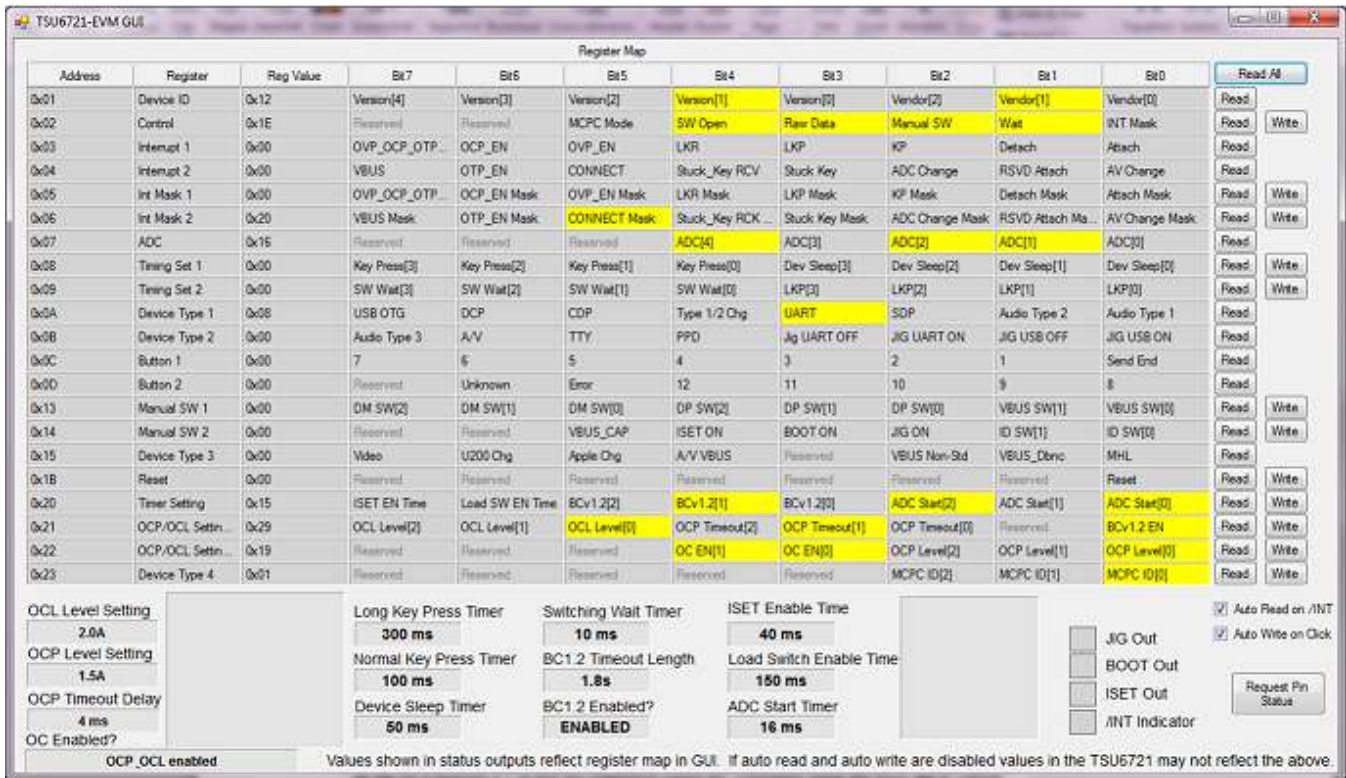

Figure 6. TSU6721EVM GUI Showing ID Detection of a UART Cable
- The GUI looks like Figure 6. Notice the change in ADC[4] through ADC[0] in register 0x07, as well as the UART bit going high in register 0x0A.